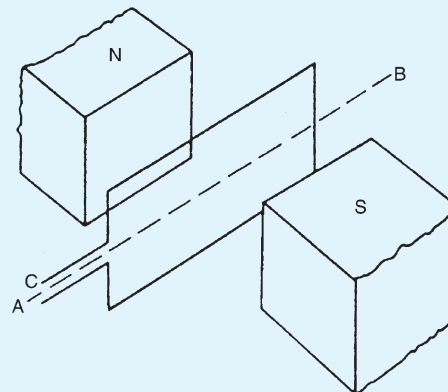

Figure 8.21
5. Fig. 8.21 shows a rectangular coil of wire placed in a magnetic field and free to rotate about axis AB . If the current flows into the coil at C , the coil will: